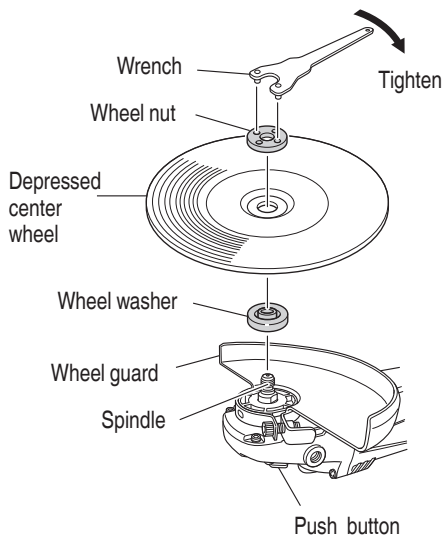

Fig. 5
Make sure that the push button is disengaged by pushing push button two or three times before turning on the grinder. (Fig. 5)
- (1) Turn the disc grinder upsidedown so that the spindle is facing upward.
- (2) Align the oval-shaped indentation of the wheel washer with the notched part of the spindle, then attach them.
- (3) Fit the protuberance of the depressed center wheel onto the wheel washer.
- (4) Screw the wheel nut onto the spindle.
- (5) While pushing the push button with one hand, lock the spindle by turning the depressed center wheel slowly with the other hand. Tighten the wheel nut by using the supplied wrench as shown in Fig. 5.
- (6) Wheel size must match guard size; i.e., a new 7" wheel may not be used with a 9" guard.